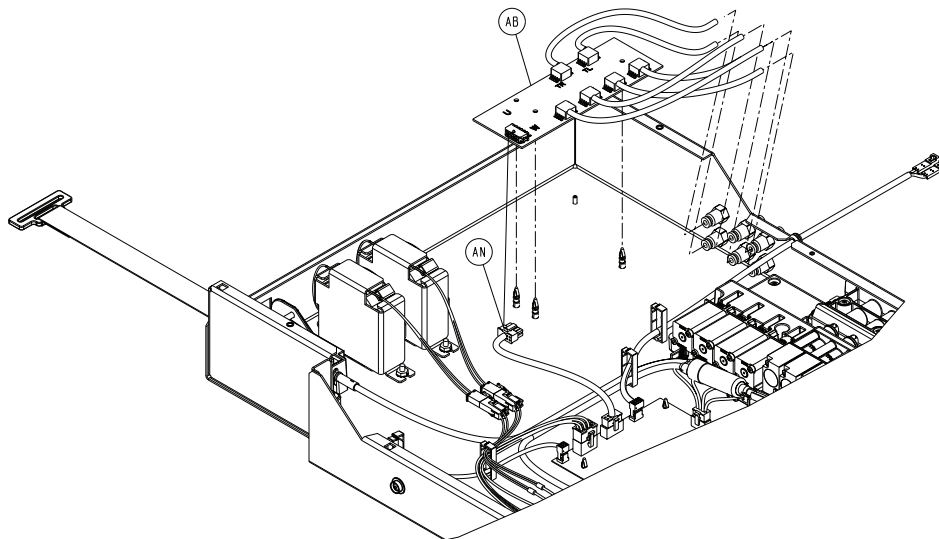

Figure 1-30: Sensor board
4. Disconnect the cable (AN) from the sensor board (AB) (Figure 1-30 on page 1-57).
5. Using needle nose pliers, lifting up slightly, disconnect the sensor board (AB) from the three plastic standoffs (Figure 1-30 on page 1-57).